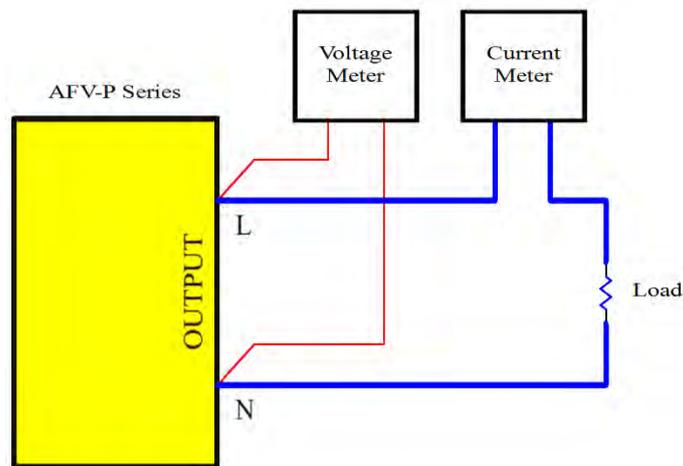

Figure 6.1 Instrument connection for calibration
2. Connect the product with the voltage meter (refer to Figure 6.1).
2. Connect the product with the voltage meter (refer to Figure 6.1)
2. Connect the product with the current meter and suitable load (refer to Figure 6.1).